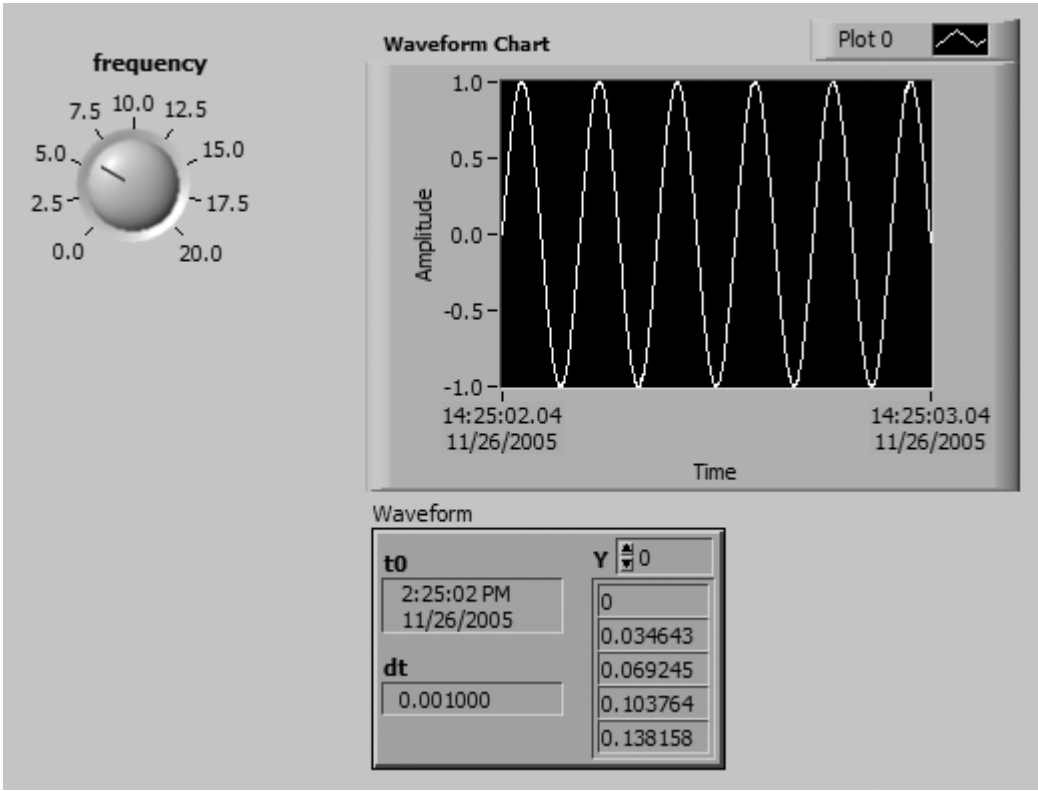

Figure 8.79
- 2. On the front panel, place a dial (from the **Numeric** palette), a chart, and a waveform indicator. Label the dial frequency, change its maximum value, and set it to 1 digit of precision (from the **Format and Precision** pop-up menu option), so that it looks like Figure 8.79.